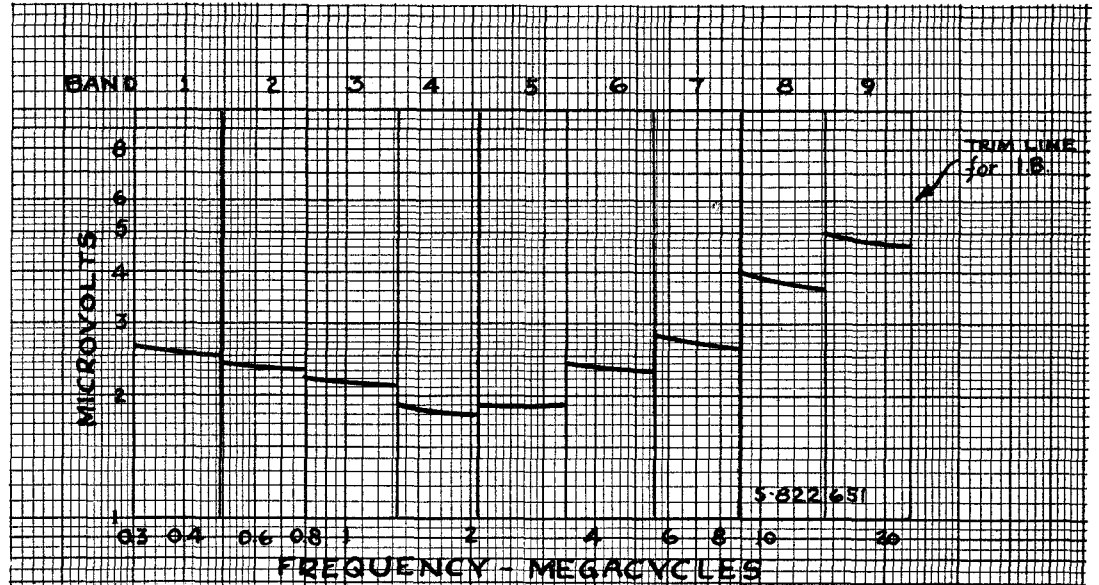

Figure 8—Sensitivity (microvolts for 6/05 M.W. Signal/Noise Ratio)
11.1-1 Figure 8 gives approximate normal sensitivities for the various bands. The procedure and conditions of measurement are as follows: With "AVC-Off", "Audio-Broad", "Audio Tuning-Off", and with a 600-ohm non-inductive resistance at receiver output terminals, pure CW is applied from a signal generator to the receiver input through a 300-ohm non-inductive dummy antenna resistance. The output beat note is held at 1000 cycles (receiver tuned 1 kilocycle higher than signal). The regeneration control is set at standard oscillation (increased beyond critical oscillation to the point where the output drops 3 db or from 2.68 V. in 600 ohms at critical oscillation to 1.9 V. at standard oscillation). The "Sensitivity" control is set for 50 micro-watts (0.173 V. in 600 ohms) noise output with no signal input. The microvolts input then required to produce 6 mw output (1.9 V. in 600 ohms) is measured.